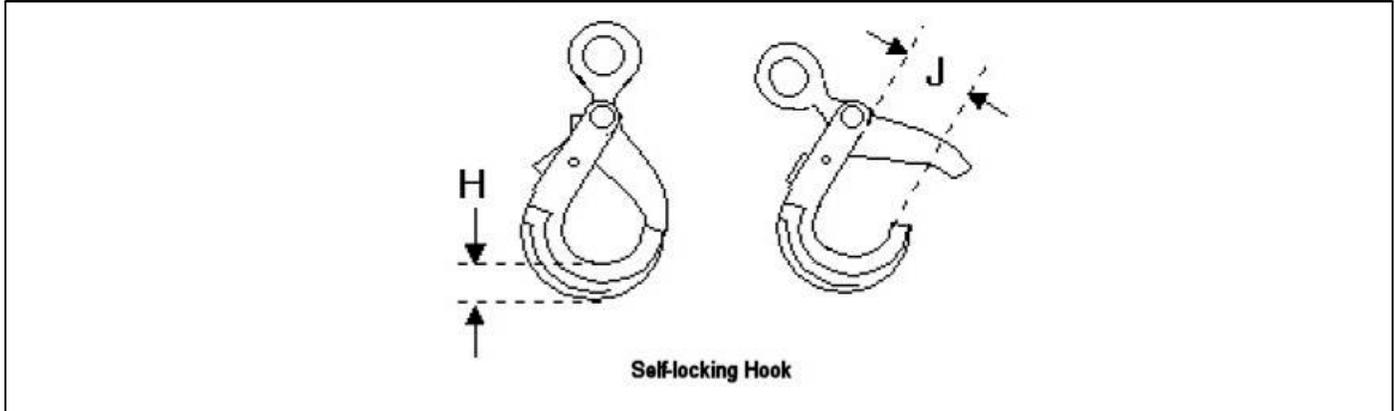

Figure 9. Dimension for Hooks
- a. Check hook for damage such as cracks, nicks, wear, gouges, and deformation, see Figures 9 and 10.
- b. Ensure that hook is not bent or distorted and complies with hook dimensions, see Table 3 and Figure 9.
- a. Check hook dimensions, see Table 3 and Figure 9.